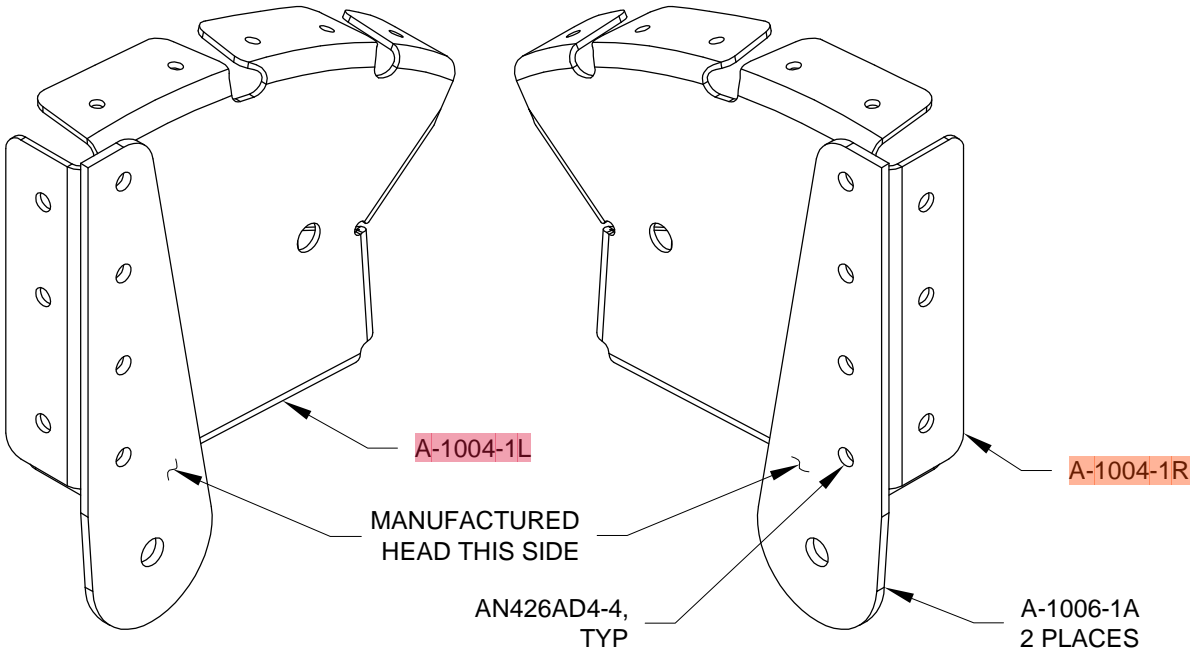

FIGURE 3: OUTBOARD HINGE BRACKET TO NOSE RIB INSTALLATION
Step 4: Final-Drill #30 the .129 [3.3 mm] holes common to the A-1006-1A Outboard Hinge Brackets and the A-1004-1R and A-1004-1L Nose Ribs. Machine countersink the outboard hinge brackets for the head of a AN426AD4 rivet as shown in Figure 3. Deburr the outboard hinge brackets and the A-1004-1R and A-1004-1L Nose Ribs.
Step 6: Attach the A-1006-1A Outboard Hinge Brackets to the A-1004-1R and A-1004-1L Nose Ribs with the rivets called out in Figure 3.